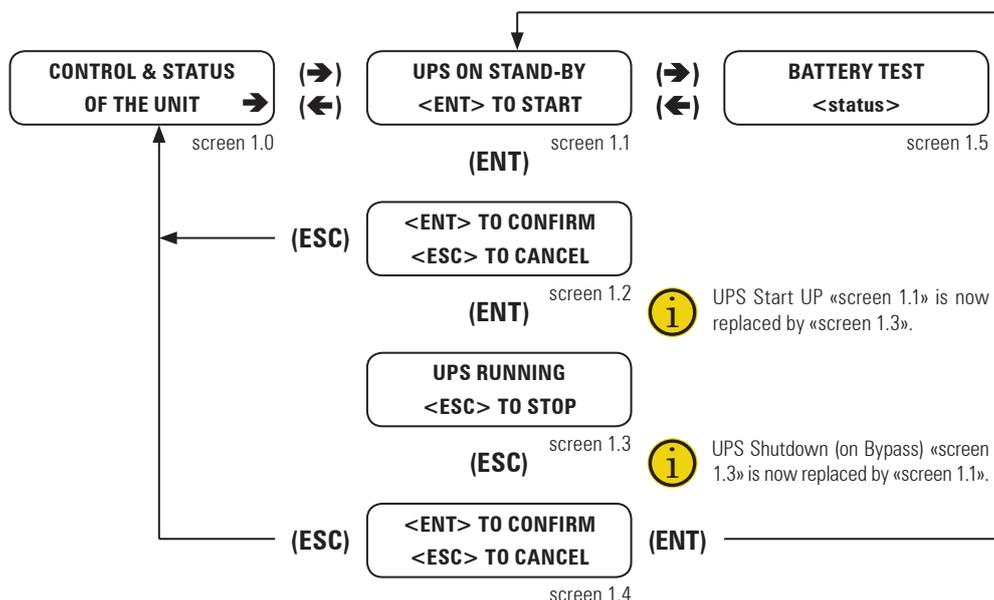
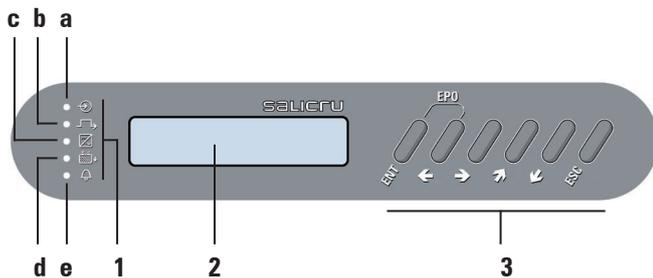

Fig. 25. Procedure start-up / shutdown.
Fig. 26. LED indications control panel (PC).
- At this point, with no alarm active, green LED indications of Input Voltage OK, and orange LED indication of Unit on Bypass should light ((**a**), (**b**) from Fig. 26).
- Start up the inverter. The start up operation will be done through the keypad of the control panel ((**3**) from Fig. 26). Go down to «CONTROL & STATUS OF THE UNIT» submenu (screen 1.0), and then right only once. You will get to screen 1.1, asking you to start the unit up by pressing (**ENT**). Do so, and then confirm operation by pressing (**ENT**) again. See following screen diagram (Fig. 25).
- Make sure that the LED indication **(c)** Inverter is working is lit (green), and **(b)** Unit on Bypass is turned OFF (see Fig. 26).
- Shutdown the inverter. Through the keypad of the control panel **(3)** from Fig. 26), go down to "CONTROL & STATUS OF THE UNIT" sub-menu (screen 1.0), and then right only once. You will get to screen 1.3, asking you to shutdown the unit by pressing **(ESC)**. Do so, and then confirm operation by pressing **(ENT)**, see Fig 25.
- Shutdown the inverter. Through the keypad of the control panel ((3) from Fig. 26), go down to "CONTROL & STATUS OF THE UNIT" submenu (screen 1.0), and then right only once. You will get to screen 1.3, asking you to shutdown the unit by pressing (ESC). Do so, and then confirm operation by pressing (ENT), see Fig 25.
- Remove the screws to that fixes the mechanical block (BL).
- Remove the mechanical block (BL) of the manual bypass switch (Q5) and set it to «On» position.
- To hope that the static bypass of the equipment is activated (Bypass's LED (b) is lit - see figure 26 -).
- Set the manual bypass switch (Q5) to «Off» position and refit the mechanical block (BL) and the screws (t₂).
- Start up the inverter. The start up operation will be done through the keypad of the control panel ((3) from Fig. 26). Go down to «CONTROL & STATUS OF THE UNIT» submenu (screen 1.0), and then right only once. You will get to screen 1.1, asking you to start the unit up by pressing (ENT). Do so, and then confirm operation by pressing (ENT) again. See following screen diagram (Fig. 25).
- Make sure that the LED indication (c) Inverter is working is lit (green), and (b) Unit on Bypass is turned OFF (see Fig.26).